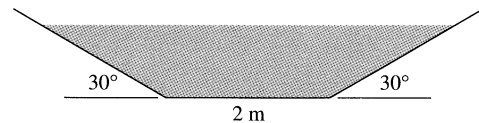

Fig. P10.17
**10.17** The trapezoidal channel of Fig. P10.17 is made of brickwork and slopes at 1:500. Determine the flow rate if the normal depth is 80 cm.